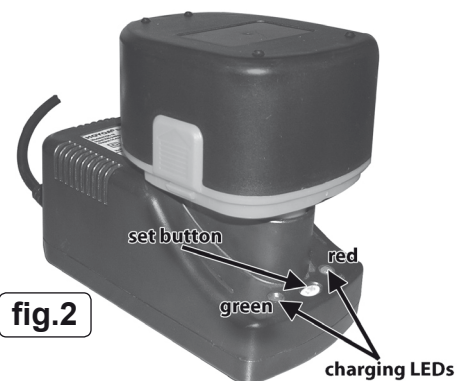

fig.2
- 3.1.3 The battery pack and charger's positive (+) and negative (-) terminals are marked. Align the terminals correctly and insert the battery into slot (fig.2).
- 3.1.4 Switch on main supply to charger and the Green LED (fig.2) will light. Press "SET" to begin charging and the Red LED will light.